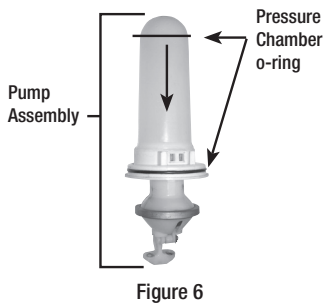

Figure 6
- 7) The pressure chamber o-ring can be replaced. DO NOT stretch the o-ring over the bottom flange. Assemble the o-ring over the top of the chamber. Apply petroleum jelly to the o-ring before reinstalling pump assembly into the tank (fig. 6).